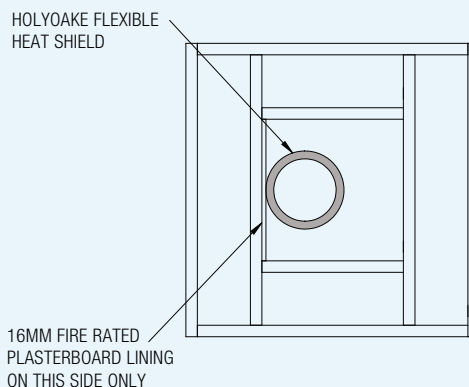

FIGURE 2: ADDITIONAL LINING REQUIRED WITHIN THIS COMPARTMENT ONLY
3. Figure 2 is therefore the obligatory installation, which requires one 16mm fire rated plasterboard lining on the joist located 100mm away from the heat shield.\*